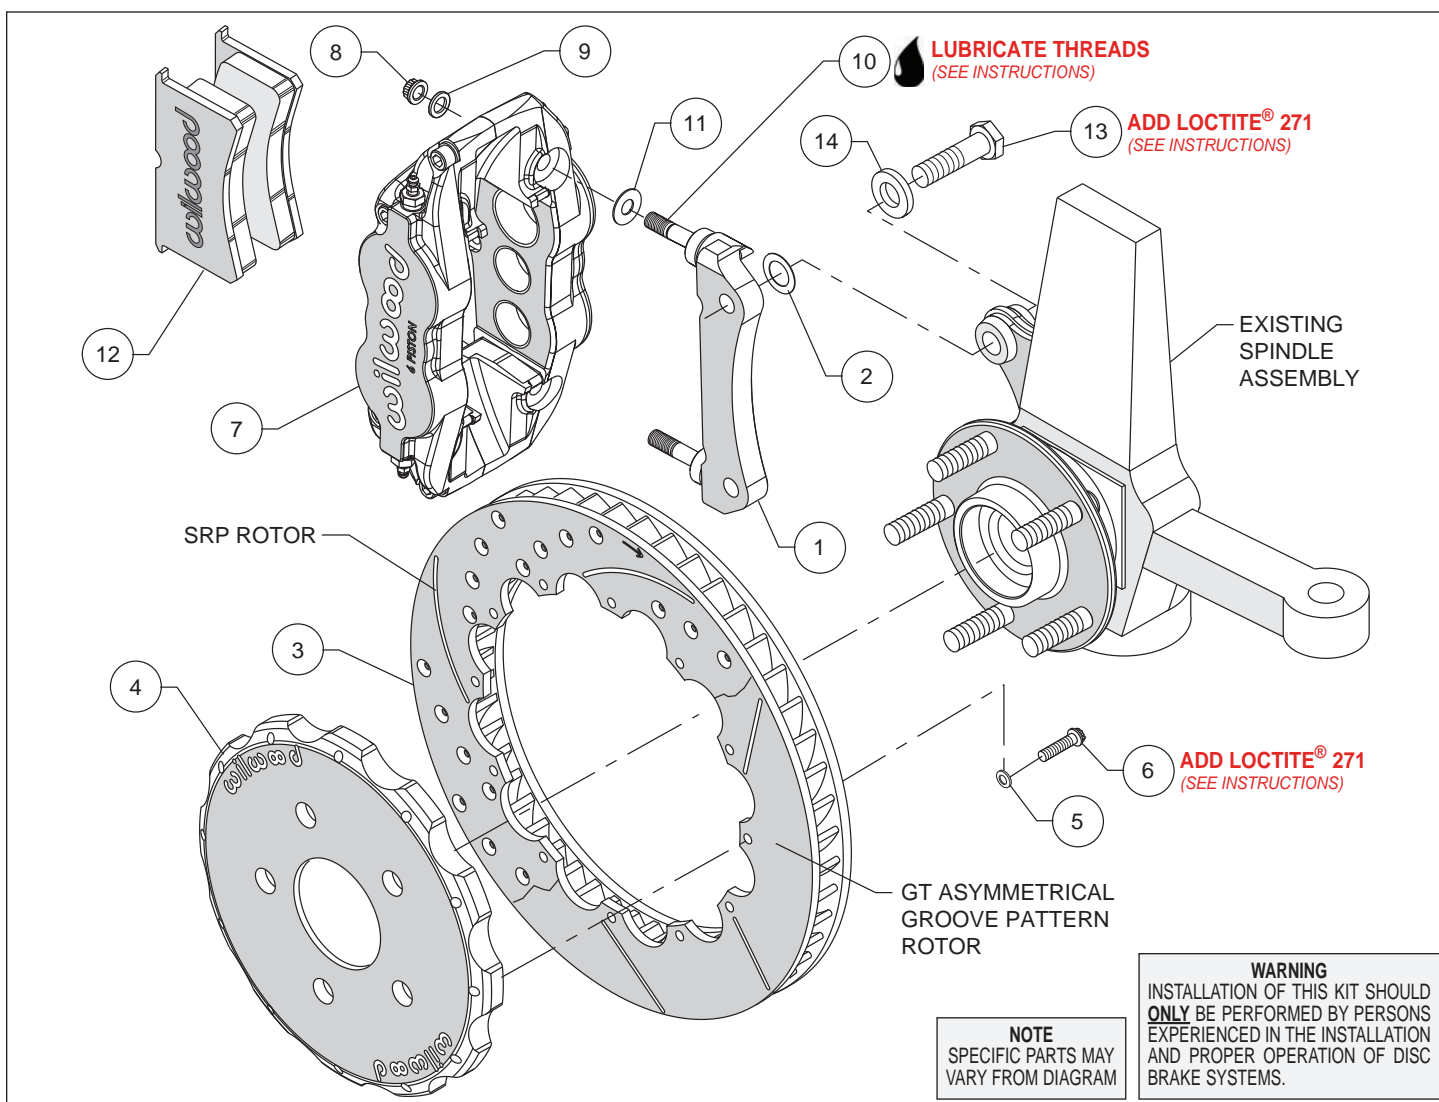
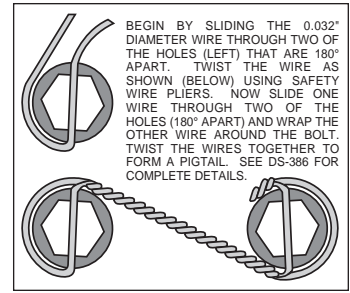

Figure 1. Typical Installation Configuration
Figure 3. Safety Wire Diagram
Assembly Instructions (numbers in parenthesis refer to the parts list and Figure 1 on the preceding pages):
- The caliper mount bracket (1) should initially be installed with clean, dry threads on the mounting bolts. Orient the bracket, as shown in Figure 1 and install using bolts (13) and washers (14). Initially place one .029" thick shim (2) on each bolt between the bracket and upright, Figure 1. Temporarily tighten the mounting bolts. **NOTE:** *The bracket must fit squarely against the mount bosses on the upright.* Inspect for interference from casting irregularities, machining ridges, burrs, etc. Later, after the caliper alignment has been checked, the mount bolts will be secured using red *Loctite*[®] 271.
- Orient the rotor (3) and the hat (4) as shown in Figure 1 and Photo 1. Attach rotor to hat using bolts (6) and washers (5). Using an alternating sequence, apply red *Loctite*[®] 271 to the threads, and torque to 155 **in-lbs**. For an added measure of security, the bolts may be safety wired using standard 0.032 inch diameter stainless steel safety wire as shown in Figure 3. Refer to Wilwood's data sheet DS-386 (available at www.wilwood.com/Pdf/DataSheets/ds386.pdf) for complete safety wire installation instructions.
- NOTE:** *This kit contains distinct right and left hand calipers that must be mounted in a specific direction, as described below.* Lubricate the caliper mounting studs (10) with lightweight oil. Initially place one .035" thick shim (11), on each stud as shown in Figure 1 and Photo 2. Mount the caliper (7) onto the bracket (1) using lock nuts (8) and washers (9), Figure 1. Ensure that the caliper is mounted so that the largest pistons are at the rotor exit end of the caliper, in relation to the direction of rotor rotation. Temporarily tighten the lock nuts and view the rotor through the top opening of the caliper. The rotor should be centered in the caliper, Photo 3. If not, adjust by adding or subtracting shims (2) between the bracket and the upright. Always use the same amount of shims on each of the two mounting bolts. Once the caliper alignment is correct, remove the bracket mounting bolts (13) one at a time, apply red *Loctite*[®] 271 to the threads, and torque to 77 ft-lb.